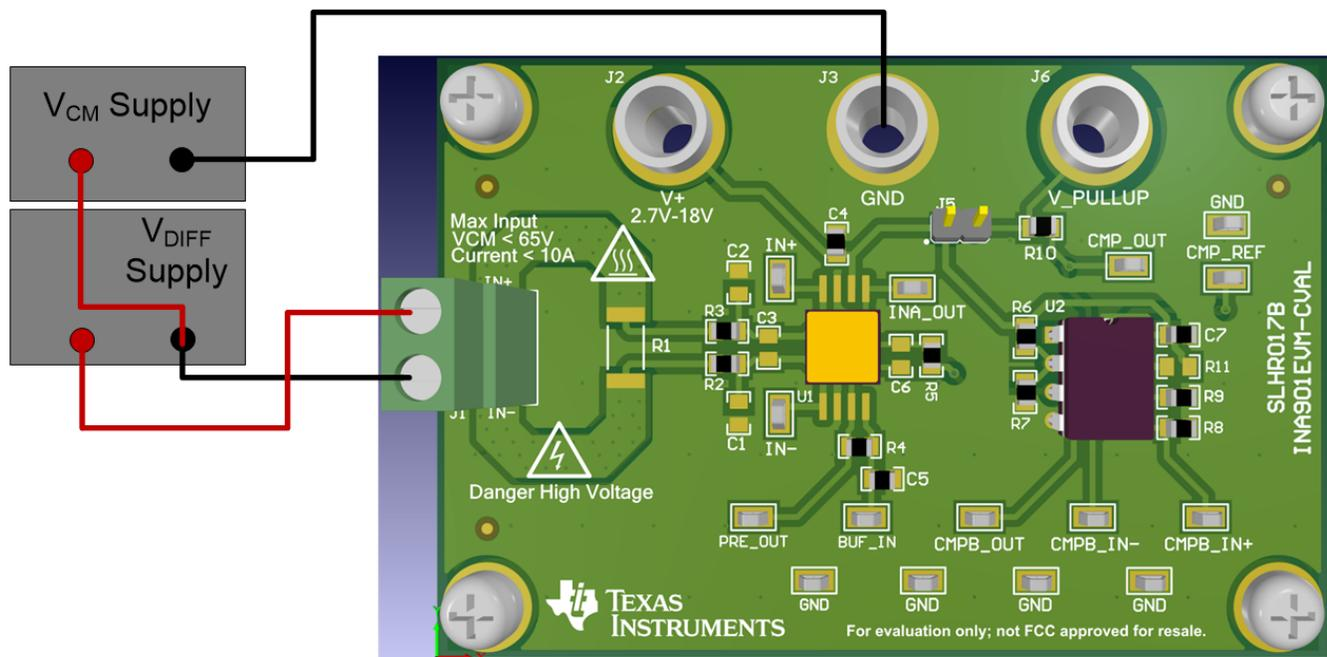

**Figure 2. High-Side Setup Using An External Shunt Resistor**
- Step 2. Connect the positive and negative terminals of J1 with the load and bus voltage sources while powered off. Figure 2 shows the correct connections for a high-side application using this method. Ensure that you make the connections such that the sensing location is directly across the shunt, and there will be no high current on the sensing path. See TI Precision Labs - Current Sense Amplifiers: Shunt Resistor Layout for additional information.